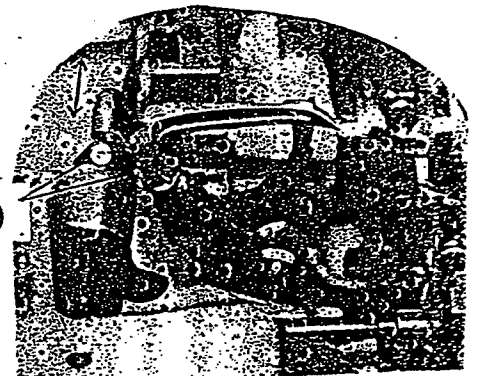

Fig 3
NOTE : If adjustment front or back is necessary, loosen two screw (A) Fig.3, and move (A) spreader as required. Re-tighten two screws after adjustment.